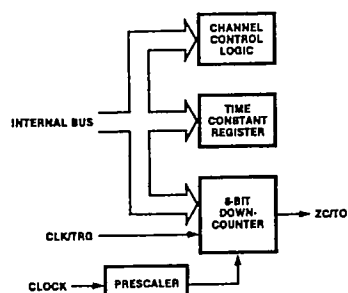

**Figure 3. Functional Block Diagram**
**Architecture** The CTC has four major elements, as shown in Figure 3.